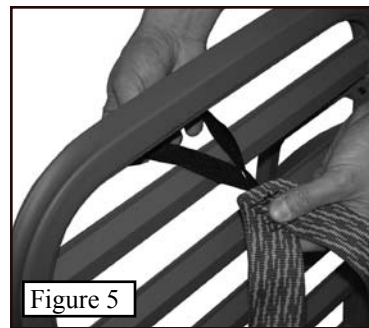
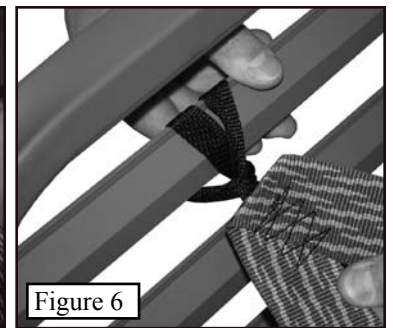

Figure 5
Figure 6
**Step 1.** Place the looped end on the 2" wide strap around the middle of the second platform rung from the front of the stand as shown in **Figure 5**. Push all of the remaining 2" strap through the loop as shown in **Figure 6**.